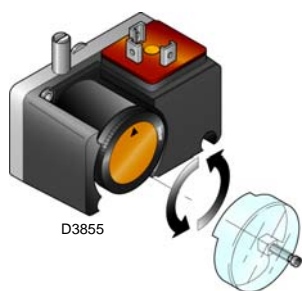

Fig. 21
- Adjust the minimum gas pressure switch (Fig. 21) to the start of the scale.